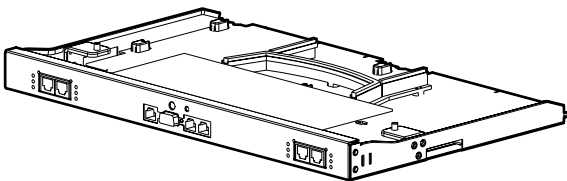

Figure 6 ProLiant BL e-Class C-GbE Interconnect switch
- ProLiant BL e-Class C-GbE Interconnect Switch (Available Spring 2002): The Interconnect Switch is designed to dramatically reduce the number of network cables attached to the rear of the server blade enclosure and offers advanced switching features, including VLAN capability. The interconnect switch reduces up to forty server blade network connections to as few as a single Gigabit Ethernet uplink connector. See Figure 6.